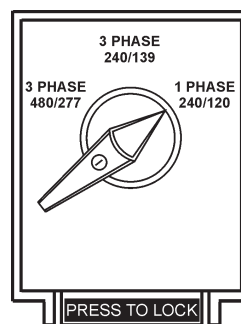

Figure 40. Voltage Selector Switch
1. Place the **voltage selector switch** in the desired voltage position (Figure 40).